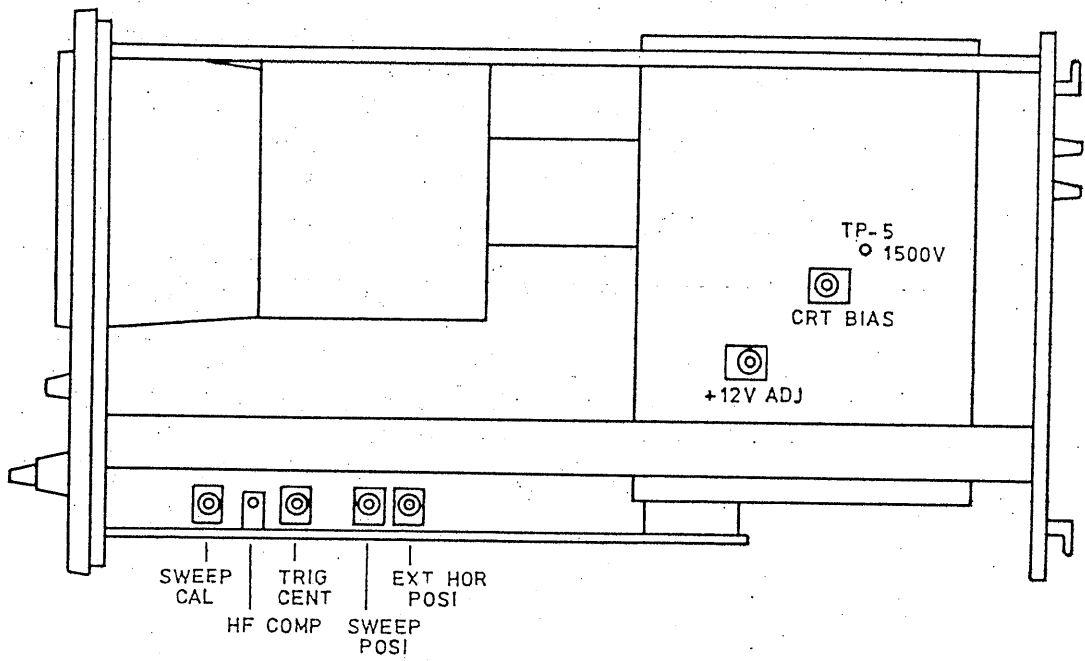

Fig. 22
Before calibrating the oscilloscope, its DC supply voltages should be checked and adjusted. Check and adjust the +12V supply voltage first and the other supply voltages next. The supply voltages are shown in the following table and the check and adjustment points are indicated in Figs. 22, 23 and 24. For removing the case, refer to Fig. 22.
6.4 Adjustment of Trigger Center (TRIG CENT) (see Fig. 22)
- (1) Apply a sine wave of about 1 kHz to the vertical input and deflect the waveform fully on the CRT screen.
- (2) Select the INT trigger "+" slope and so set the LEVEL knob that its white mark is positioned in the noon high position. Under this state, so adjust the TRIG CENT control (see Fig. 22) that the trigger point is at the center of the deflection amplitude.
- (1) Set the TIME/DIV switch in the 1 msec position and apply a time marker signal of 1 msec or a sine wave signal of 1 kHz to the vertical input terminal of the oscilloscope. Deflect the signal with an appropriate amplitude on the CRT screen by adjusting the generator output or oscilloscope gain.
- (2) So adjust the SWEEP CAL control (see Fig. 22) that the displayed waveform conforms with graticule divisions.
- (3) Set the TIME/DIV switch in the 1 μ sec position and apply a time marker signal of 1 μ sec or a sine wave signal of 1 MHz to the vertical input terminal of the oscilloscope.
- (4) So adjust the HS COMP control (see Fig. 22) that the waveform conforms with graticule scale divisions.
So adjust the SWEEP POSITION control (see Fig. 22) that, with the white mark of the \leftrightarrow POSITION knob (14) set in the upright position (noon high position), the start position of the sweep is brought to the left-hand end of the graticule.
Set the TIME/DIV switch (16) in the EXT HOR position and the white mark of the \leftrightarrow POSITION knob (14) in the upright (noon high) position. So adjust the EXT HOR POSITION control (see Fig. 22) that the beam spot is displayed in the center of the CRT screen.
- (1) Set the TIME/DIV switch in (16) in the 1 msec position and display the trace on the CRT screen.
- (2) Set the white mark of the INTEN knob in the upright (noon high) position and so adjust the CRT BIAS control (see Fig. 22) that the trace is displayed on the screen with a barely discernible intensity.